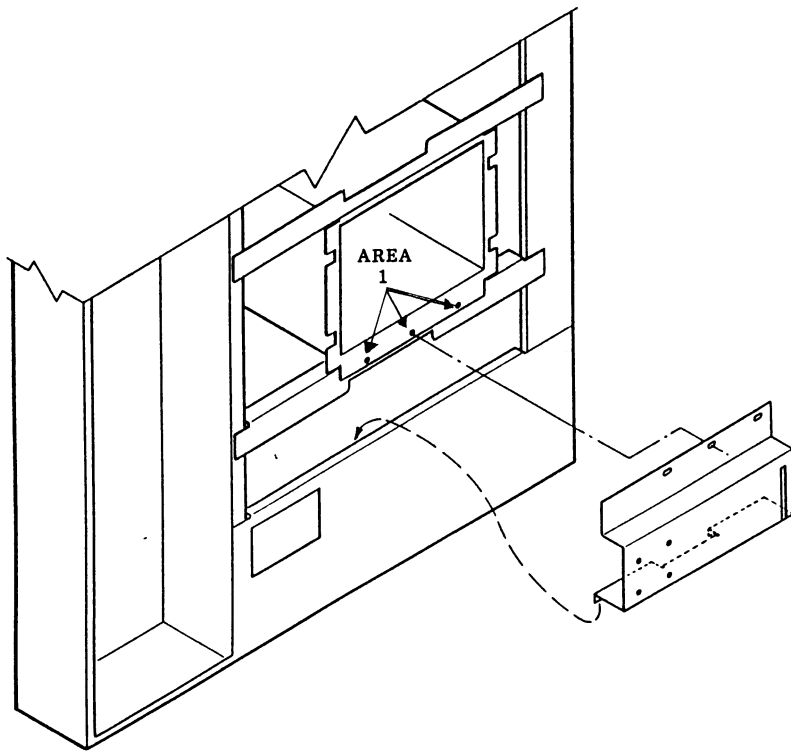

Figure 1
5. Remove the three screws holding the bottom of the delivery chute box and save to install later. (See Area 1, figure 1, page 4).
6. Hook the bottom of the relocation cover over the top edge of the bottom door frame. (See figure 1, page 4).
7. Secure the top of the relocation cover to the bottom of the delivery chute box by replacing the three screws that were removed in Step 5 above. (See figure 1, page 4).